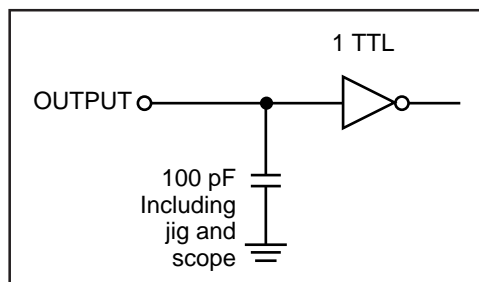

Figure 1
Output Load	See Figures 1 and 2
- Test conditions assume signal transition times of 5 ns or less, timing reference levels of 1.5V, input pulse levels of 0.4V to 2.2V and output loading specified in Figure 1.